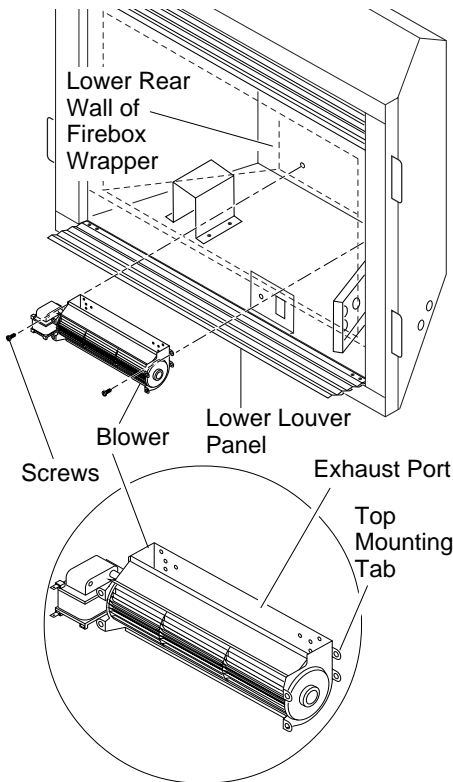

Figure 29 - Mounting Blower to Firebox
IMPORTANT: For clarity, gas valve assembly and grate/burner assembly are not shown in Figures 29 through 32, page 17. They will, however, be in your fireplace when you are installing the blower. Also for clarity the firebox is shown with dotted lines.
2. Place the blower against the lower rear wall of firebox outer wrapper with the exhaust port directed upward. Align the holes in the top mounting tabs of blower with holes in wall of wrapper (see Figure 29, page 17). Using the two screws provided, mount blower and tighten screws securely.